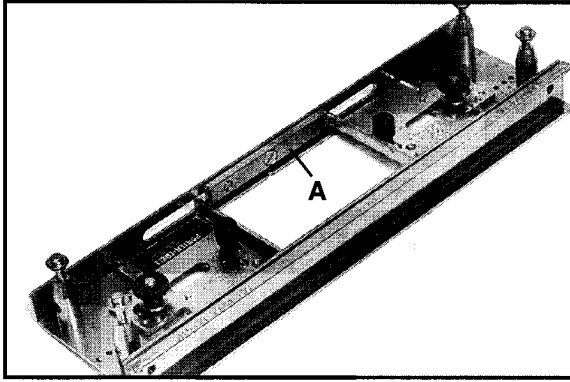

Fig. 13
On exterior door jamb with door stops already in place, allowance can be made for weather-stripping by attaching correct size jamb gage for hinge being installed; to the inside of each templet section (A) Fig. 13, before mortising the jamb. These gages are not required when mortising the door.